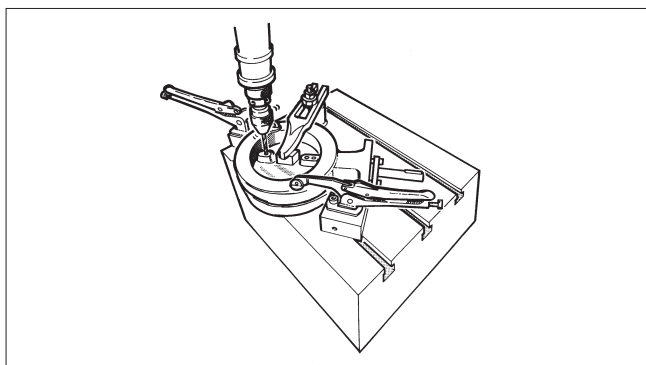

Fig. 14 Drilling the pins
- Mount a new, self-adhesive body seal (19) into the body. The surface must be clean and free of grease. Handle the ends of the seal according to Fig. 14.
- Centre the seat ring (4) carefully into its groove and turn the disc to maintain light contact with the seat.
- Mount the clamp ring and tighten the screws (27) lightly.
- Tighten the screws (27) evenly. An unevenly tightened flange may damage the seat ring. The screw heads must be below the flange surface.
- Remove the clamp ring (2) and seat ring (4) according to section 5.5.
- Set the valve horizontally on a sturdy surface so that the flat side of the disc lays against the surface, see Fig. 14.